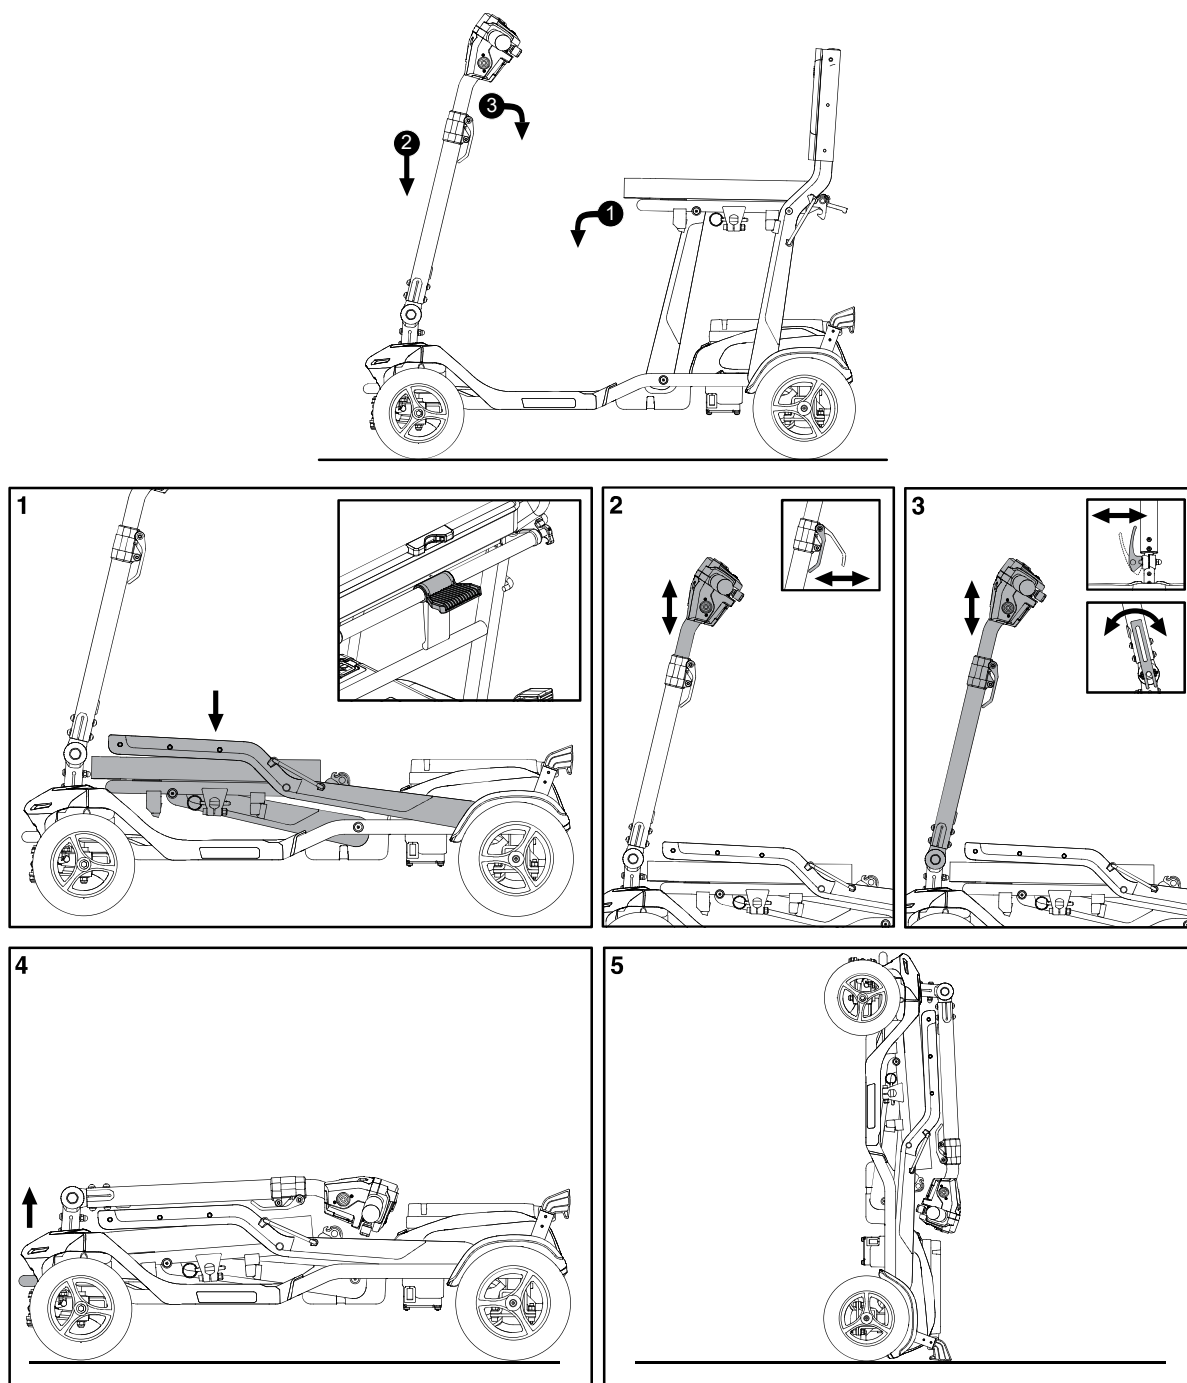

Figure 14. Folding for Transport
To fold your scooter (see figure 14):
To unfold your scooter (see figure 14):
1. Fold your scooter as shown in step 5 in **figure 14**. Refer to V. “Disassembly/Assembly and Folding/Unfolding” for more information.